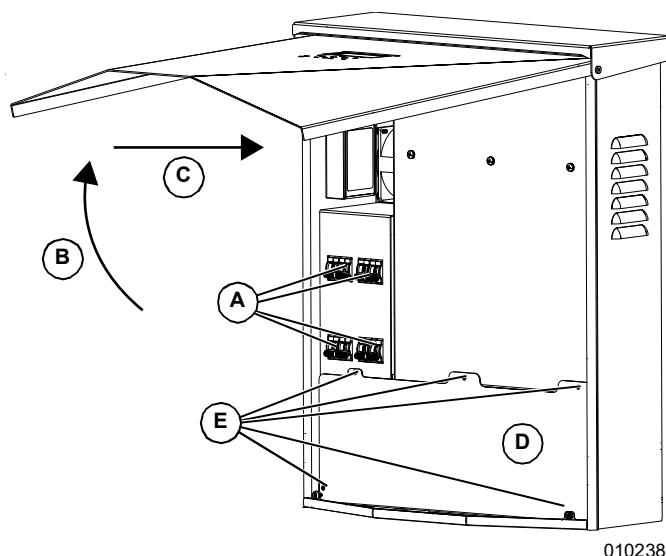

Figure 8-1. Wiring Compartment
3. See Figure 8-1. Open all PWRcell DC Disconnects (A). Verify DC voltage reported on LCD screen has dropped to below 10 VDC.
5. Open inverter front cover by lifting the bottom to horizontal (B) and pushing inward (C).
6. Locate wiring compartment cover (D).
7. Remove five M4X10 screws (E) and wiring compartment cover.
2. See Figure 8-1. Open all PWRcell DC Disconnects (A). Verify DC voltage reported on LCD screen has dropped to below 10 VDC.